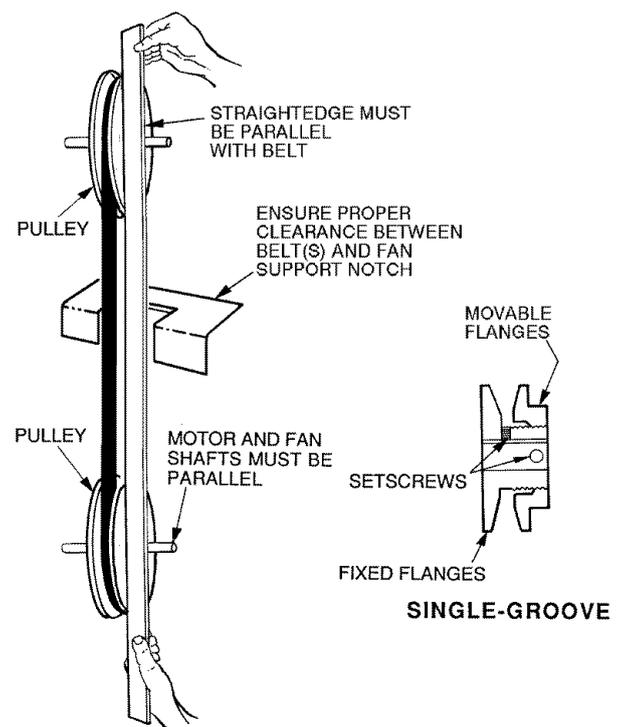

Fig. 43 — Evaporator-Fan Pulley Alignment and Adjustment
3. Loosen movable-pulley flange setscrew (see Fig. 43).